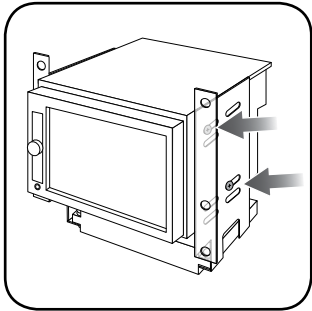

Fig. 8.0
- Unbox the aftermarket radio and mount it to the brackets included with the FTR1 kit (use the holes marked "1" for proper placement of the new radio) . (Fig. 8.0)